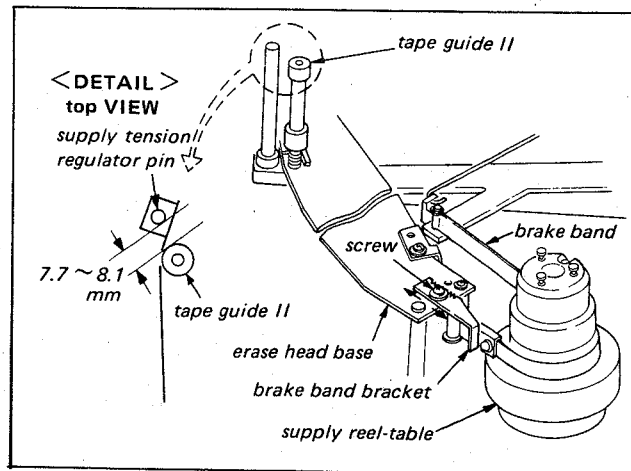

Fig. 4-21. Tension regulator pin position adj. (FWD mode)
2. Check to see that the clearance between the Supply Tension Regulator Pin and the top flange of the Tape Guide-II on the Erase Head Base should be in between 7.7 mm and 8.1 mm. If not, loosen the screw shown in Fig. 4-21 and adjust the position of the Brake Band Bracket.